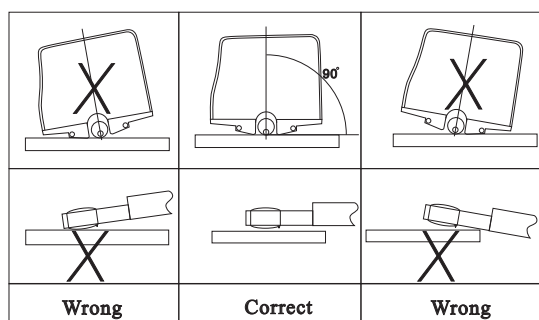
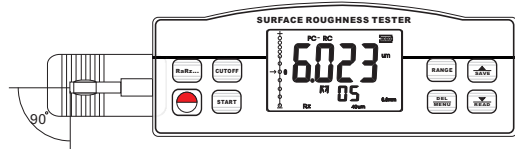

Fig. 4-1
Fig. 4-2
- Refer to Figure 4-1 and Figure 4-2 to place the instrument correctly, stably and reliably on the surface to be measured.
- Refer to Figure 4-2, the sliding trail of the sensor must be vertical to the direction of process line of the measured surface.